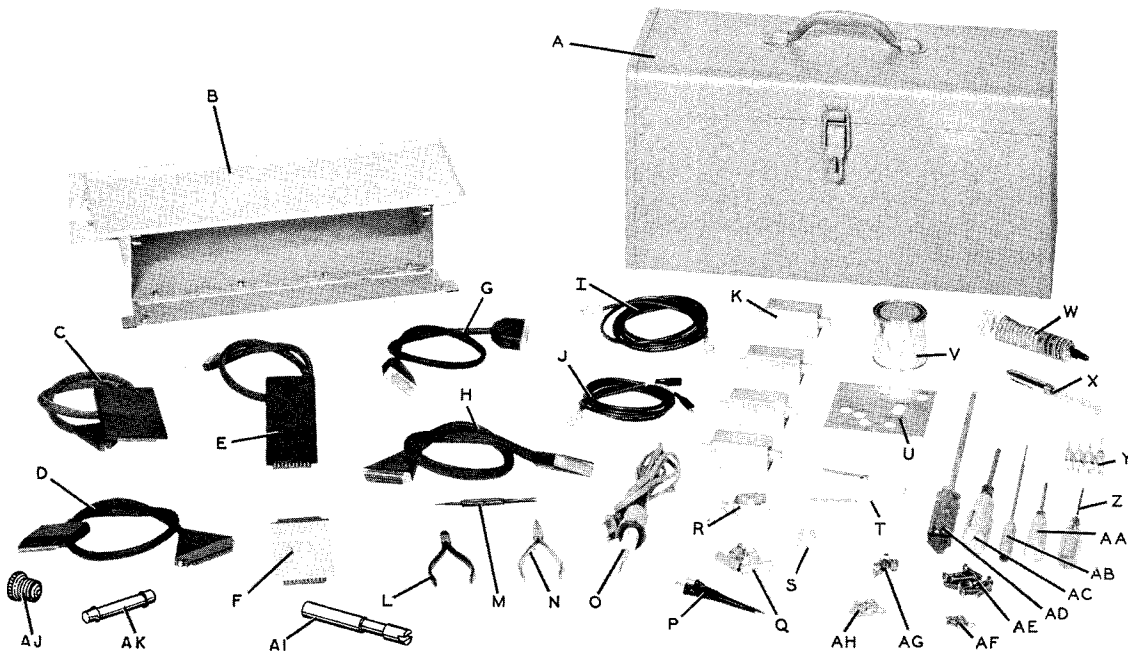

Figure 5-1. Electrical Equipment Maintenance Kit MF-447/URC-32
b. ALIGNMENT AND ADJUSTMENT. - This section provides alignment and adjustment procedures and instructions required for units of Radio Set AN/URC-32( ). Each alignment or adjustment procedure lists the test equipment required to perform that procedure. The special tools and cables supplied with Radio Set AN/URC-32( ), are included in Electrical Equipment Maintenance Kit MK-447/URC-32 and listed in table 1-4 and illustrated in figure 5-1. These special tools and cables are required for the performance of alignment and adjustment procedures.